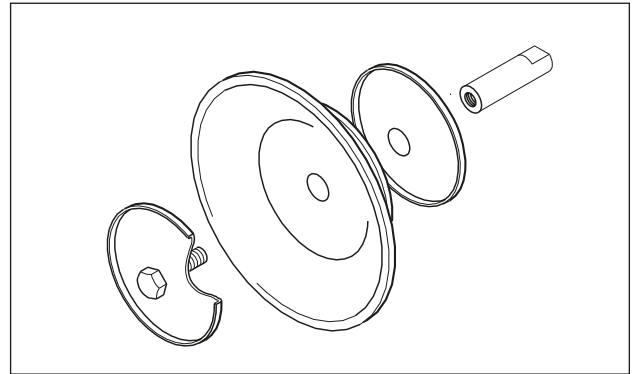

Fig. 14: Assembly of standard diaphragm with inner and outer plate
- Pumps DL 40, 50 and 80 with PTFE diaphragms have internal diaphragm plates with bolted on shims to reduce and displace the stroke. For later changeover to PTFE diaphragm the corresponding plates must be used (Fig. 14).